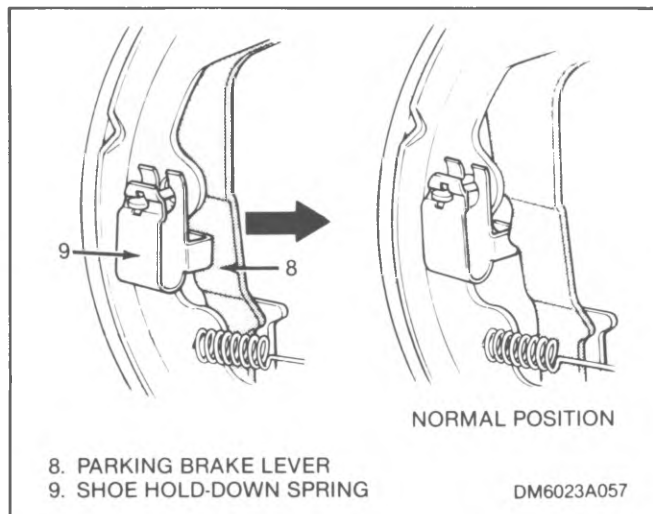

Figure 4-13. Returning Parking Brake Lever to Normal Position
9. Return parking brake lever to its normal position. Move parking brake lever in direction shown in figure 4-13. The shoe hold-down spring will snap inward so that when the lever (9) is released it will come to rest against the spring.